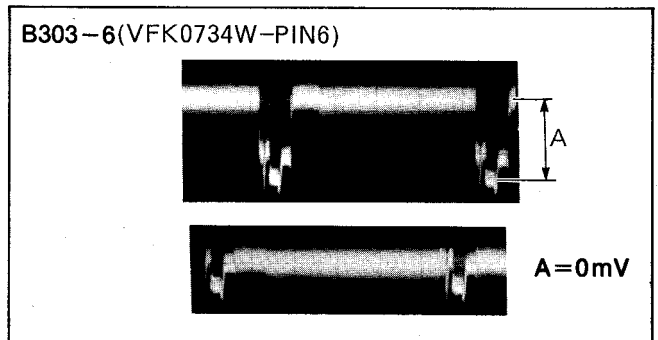

Fig. C14
- \* Push [INC] or [DEC] keys until the "A" level is minimized, as shown in Fig.C14.